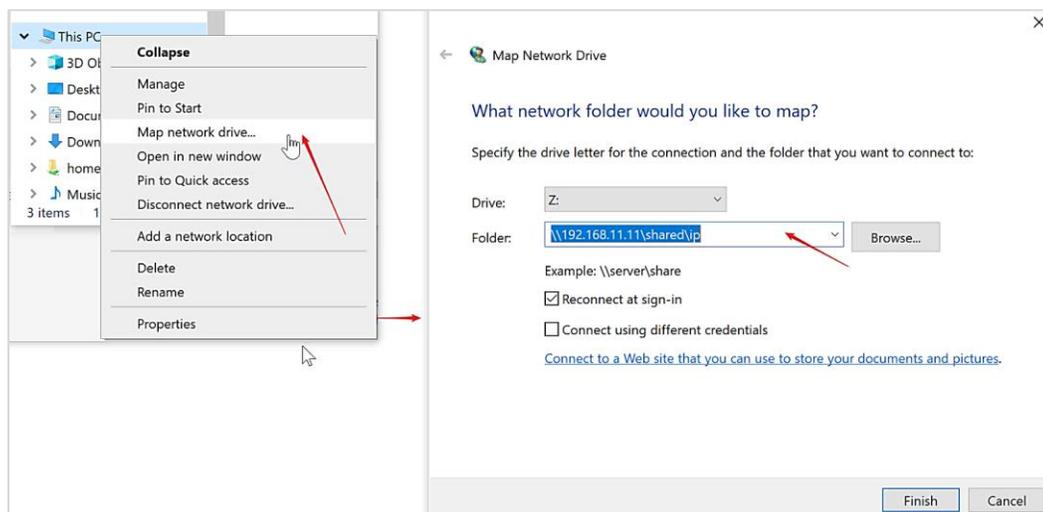

Figure 2.112. Map Network Device
IP Public Path does not support network path in Windows Operation System (OS), for example, `\\192.168.11.11\shared\ip`. Workaround for this is to map the Network Drive with the network path and set the path with a local disk (Figure 2.112).